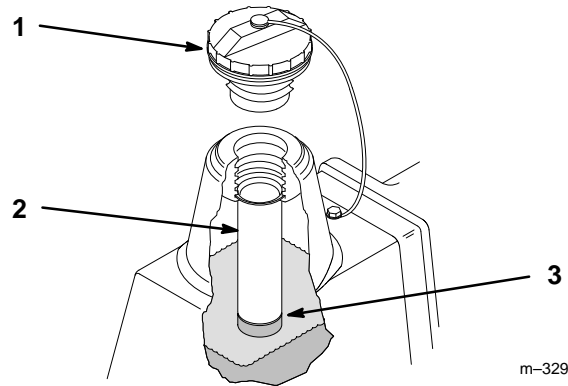

Figure 27
3. Remove cap from filler neck and look inside to check fluid level. Fluid level should be above the bottom of the screen (Fig. 27).
4. If level is low, add fluid to raise level to above the bottom of the screen (Fig. 27).
2. Clean area around filler neck of hydraulic tank (Fig. 27).